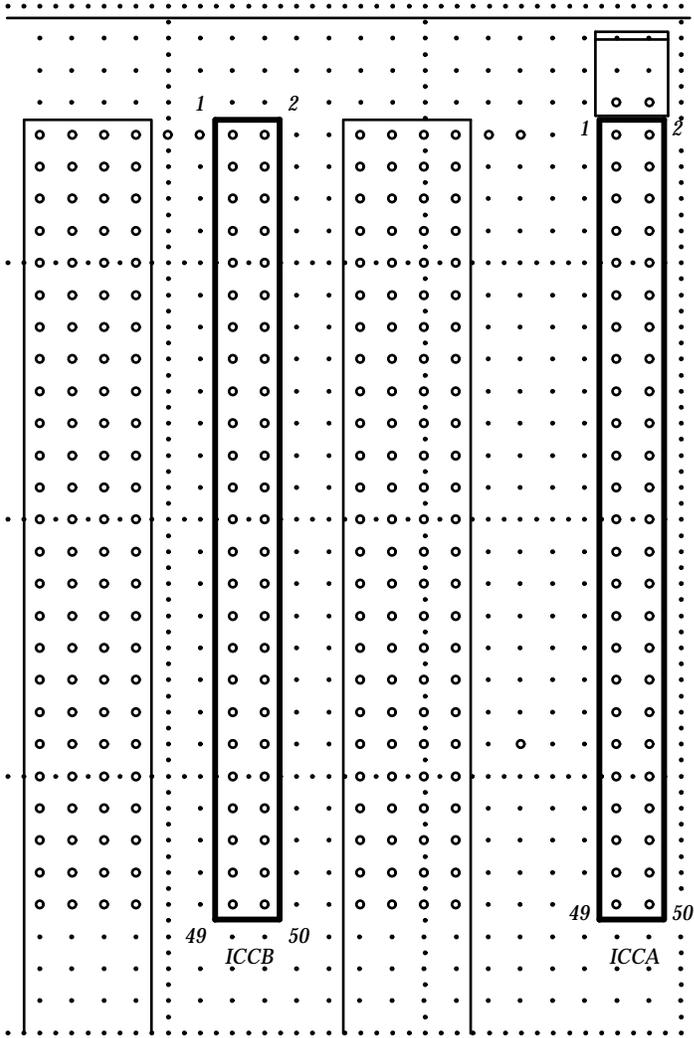

FIGURE 4-8. ICC Block on J58890AH-1 and J58890AJ-1 Carriers
3. See CAUTION. If the system is duplicated, install the ICC cables (H600-182 Gr1) between carriers “A” and “B” by connecting to the “ICC” blocks on both carriers (see Table 4-C and Figure 4-8). The cable is installed so that the dark (red, blue, or purple depending on supplier) stripe is on the bottom at both ends.